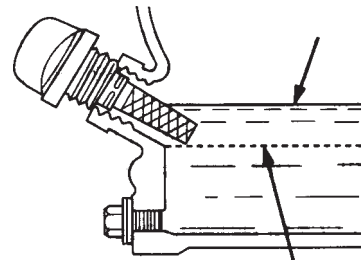

Figure 16. Engine Oil Dipstick (Oil Level)
4. If the oil level is low (Figure 16), fill to the edge of the oil filler hole with the recommended oil type (Table 3). Maximum oil capacity is 400 cc.